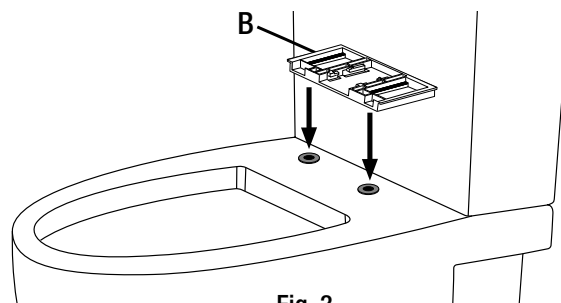

Fig. 3
3. Place the mounting plate (B) onto the toilet seat. The side with the grooves should be facing towards the toilet bowl. See Fig. 3.